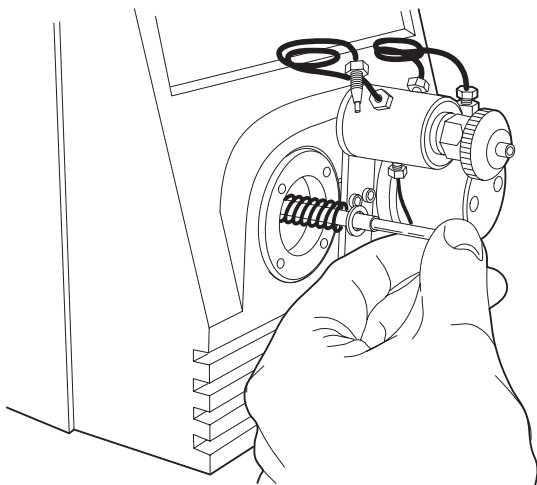

Figure 4-4 Removing the Plunger Assembly
5. Remove the plunger assembly and set it aside (see Figure 4-4).